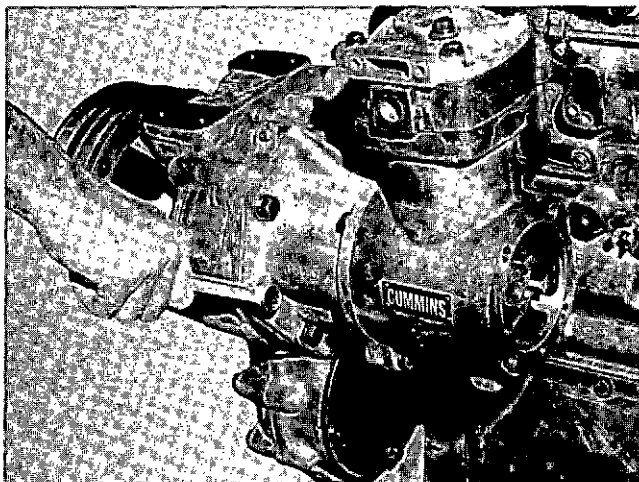

Fig. 0-24, V40057. Removing Cummins air compressor
6. Remove capscrews and lockwashers securing air compressor to gear case. Fig. 0-24.